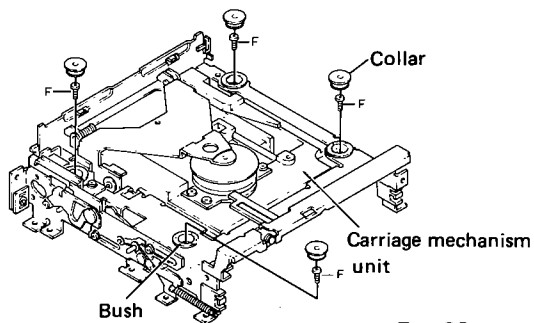

Fig. 22
• Vibration Proof Rubber (Bush) Removal (Fig. 22)